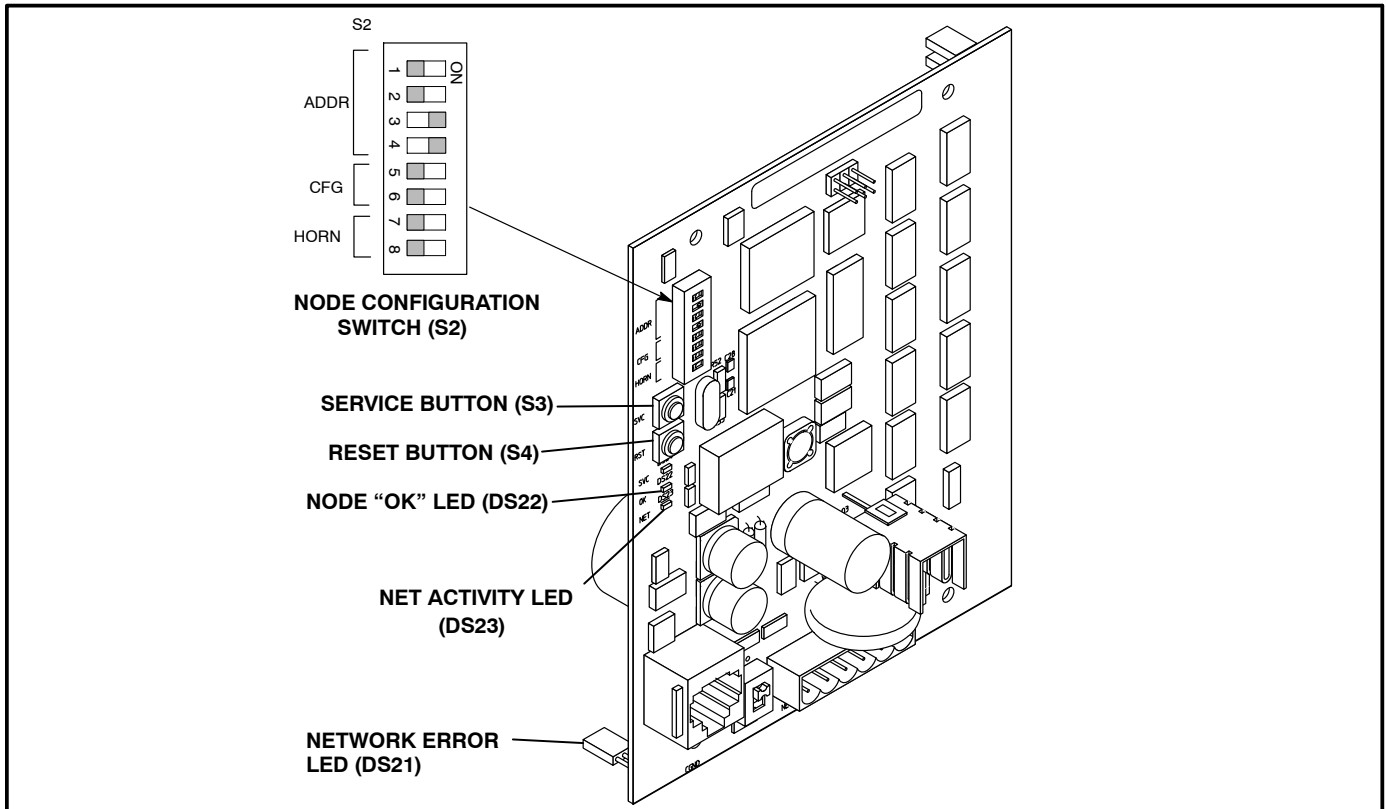

FIGURE 15-7. ANNUNCIATOR SWITCHES AND LEDs (EXAMPLE OF NODE ADDRESS = 3)
Example: To set up a *Node Address* of 3, set switch node configuration switch S2 as follows: S2-1 OFF, S2-2 OFF, S2-3 ON and S2-4 ON (binary setting 0011=0+0+2+1=3 decimal). See Figure 15-7 and Table 15-2.
Be sure to assign each node in the network a unique address. The *Node Address* can be verified by counting the number of pulses of the “OK” LED (DS22). See Figure 15-7.
Switch S2-7 enables the horn (see Figure 15-7). If
7. Press and hold the Service button (S3) (see Figure 15-7) until the *Network Status* lamp (see Figure 15-1) begins flashing (amber).